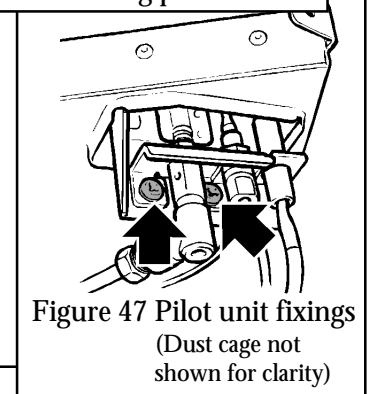

Figure 47 Pilot unit fixings
15.3.8 Remove the first screw securing the dust cage to the pilot unit/burner (see figure. 47). Carefully remove the dust cage and place aside.